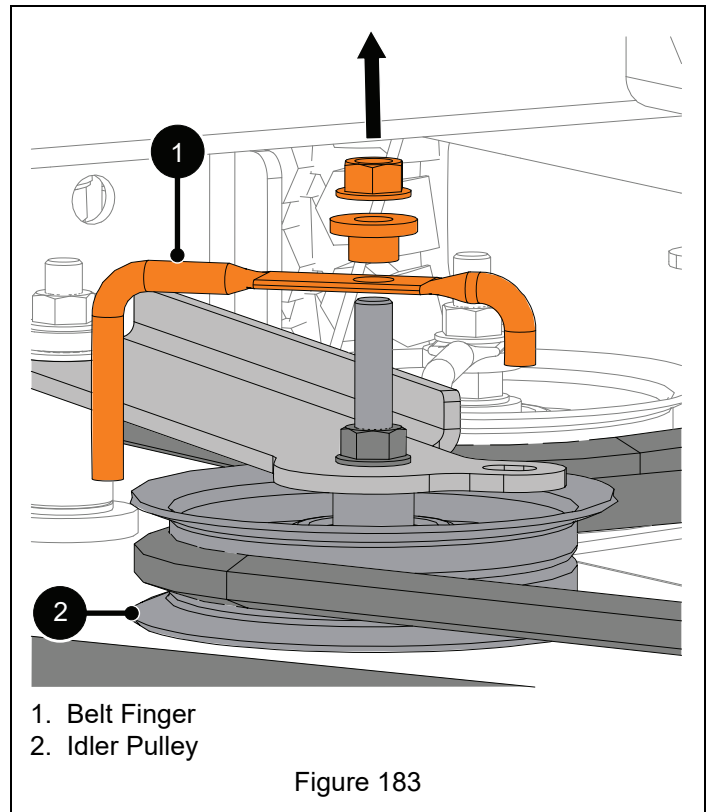

Figure 183
6. Remove belt fingers. See Figure 183.